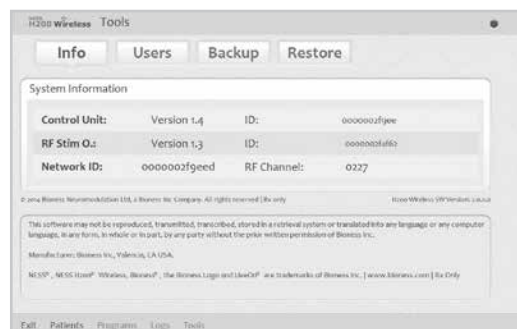

Figure 8-37: System Information Window
2. From the Tools menu, press the Info tab. See Figure 8-37.